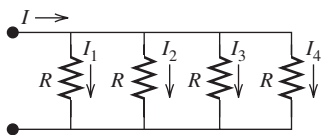

FIGURE P3.27 Circuit for Problem 3.27.
- 3.27** (A) Find I_1 , I_2 , I_3 , and I_4 in Figure P3.27.